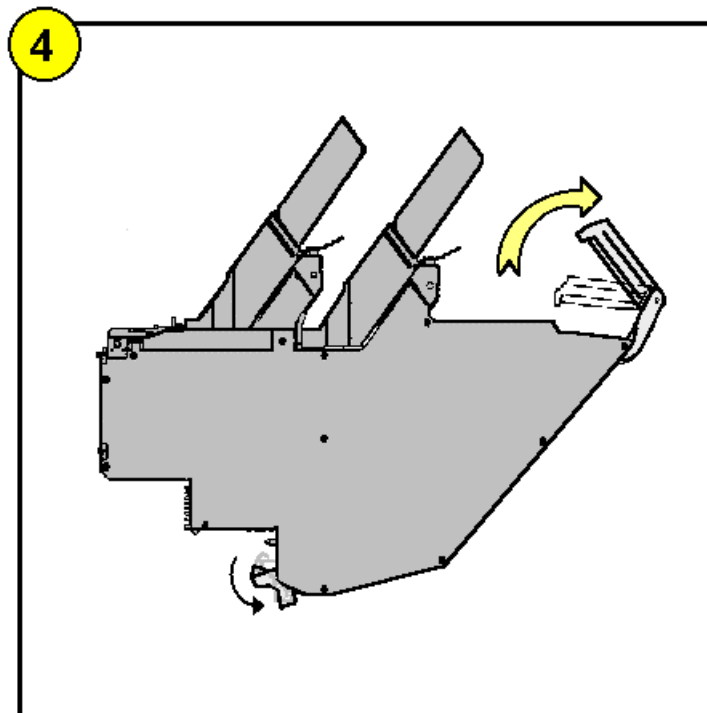

FIGURE 2.3.4a
- Move the handle to its most upward position. The clamp lever of the feeder will open. See figure 2.3.4a